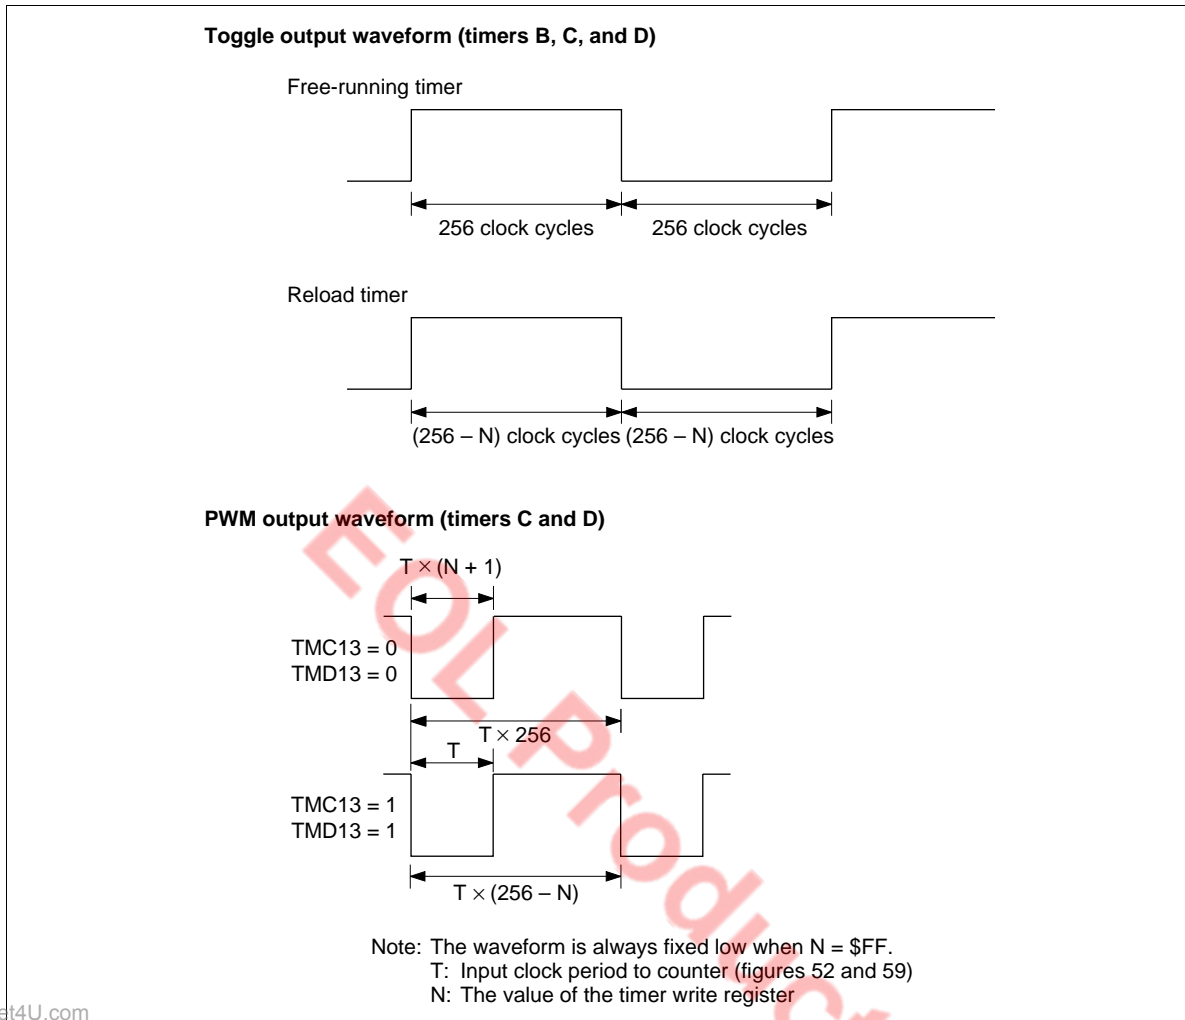

Figure 43 Timer Output Waveform
- Toggle output: When toggle output mode is selected, the output level is inverted if a clock is input after timer B has reached \$FF. By using this function and reload timer function, clock signals can be output at a required frequency for the buzzer. The output waveform is shown in figure 43.
— PWM output: When PWM output mode is selected, timer C provides the variable-duty pulse output function. The output waveform differs depending on the contents of timer mode register C1 (TMC1: \$00D) and timer write register C (TWCL: \$00E, TWCU: \$00F). The output waveform is shown in figure 43.